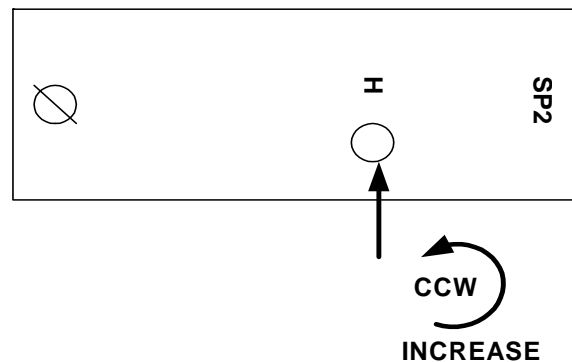

Figure 1-17. High Channel Adjustment
r. **High Channel Adjustment:** (refer to Figure 1-17).